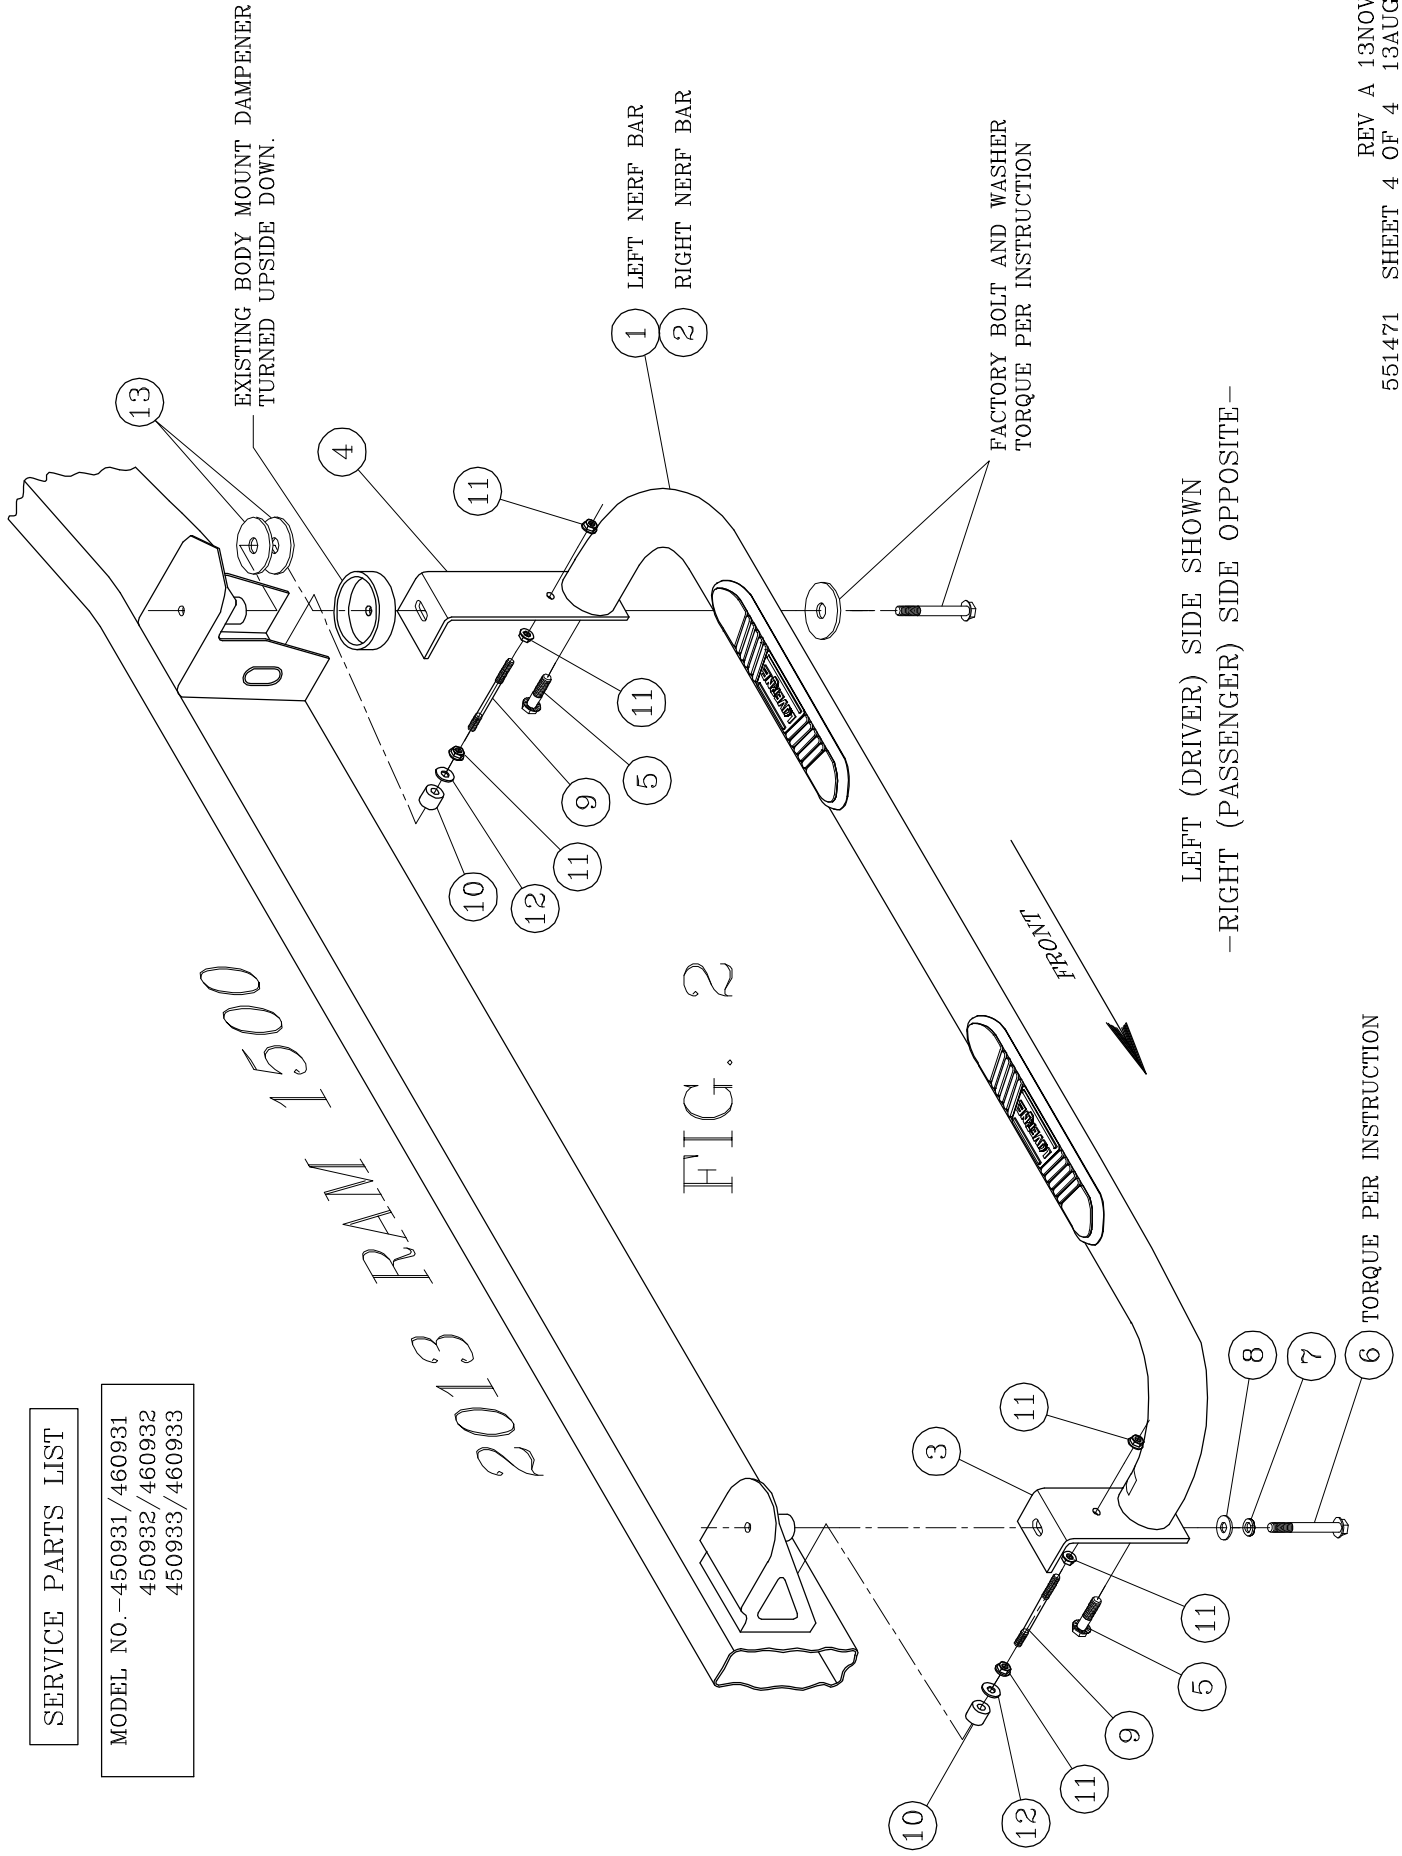

FIG. 2
- 5.3. **2013-** ON THE REAR BODY MOUNT FLIP THE CAST IRON BODY MOUNT DAMPENER OVER AND INSTALL TWO 3/4" FLAT WASHERS INSIDE THE DISH OF THE DAMPENER, PLACE THE FACTORY BODY MOUNT BOLT AND WASHER THROUGH THE NERF BAR BRACKET THEN THROUGH THE DAMPENER, AND 3/4" WASHERS AS SHOWN IN **FIG.2**.